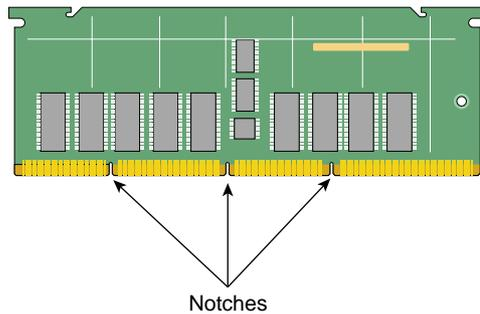

Figure 3-11 Locating the Notches on a DIMM
4. Align the DIMM with the socket. Make sure that the notches on the bottom of the DIMM align with the protrusions in the bottom of the socket (see Figure 3-11).